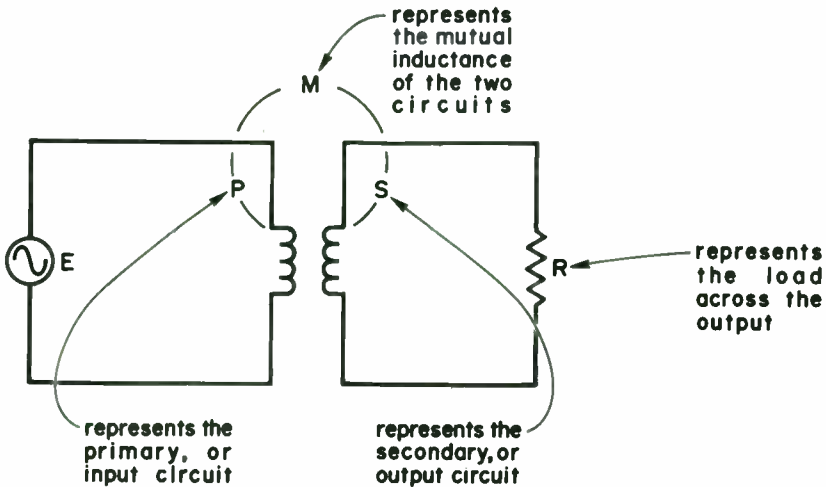

Figure 10 - Coupling between two circuits transfers energy from the primary to the secondary.
When two separate circuits are *positioned* so that energy from one circuit is coupled to the other circuit by transformer actions, they are said to be inductively coupled (Fig. 10). Mutual inductance is the common property of the two circuits. It is the mutual inductance (M) between the input coil P and the output coil S that determines the amount of voltage induced in the secondary circuit S, from the primary circuit P. The mutual inductance M is expressed in henries and is a measure of how much energy is transferred from an *input* circuit to an *output* circuit.
The circuit in Figure 10 is also referred to as indirect coupling, magnetic coupling, or mutual-inductive coupling. In every case, the transfer of energy is accomplished by the alternating current of the input circuit flowing through the primary winding and setting up the alternating magnetic field. These magnetic lines of force link with the turns in the secondary winding and induce the voltage that exists at the terminals of this output circuit.